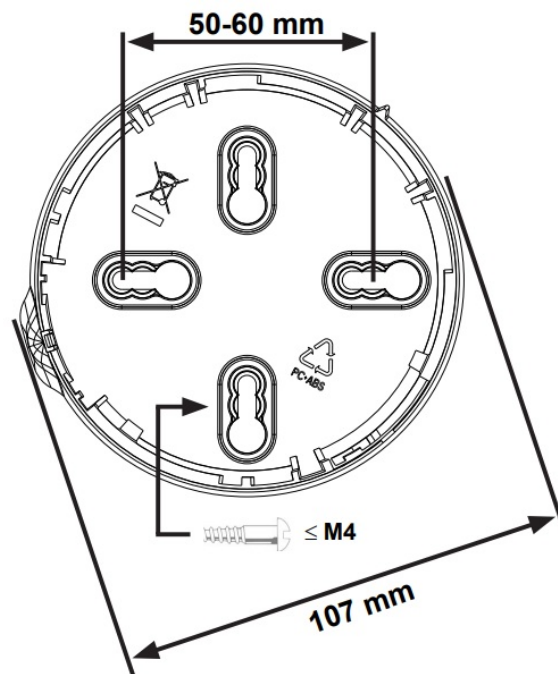

Figure 2: Attaching the Repeater to the Base
- **Attaching the Repeater to the Base:** Follow the instructions in Figure 2.
Figure 2 details attaching the repeater to the base